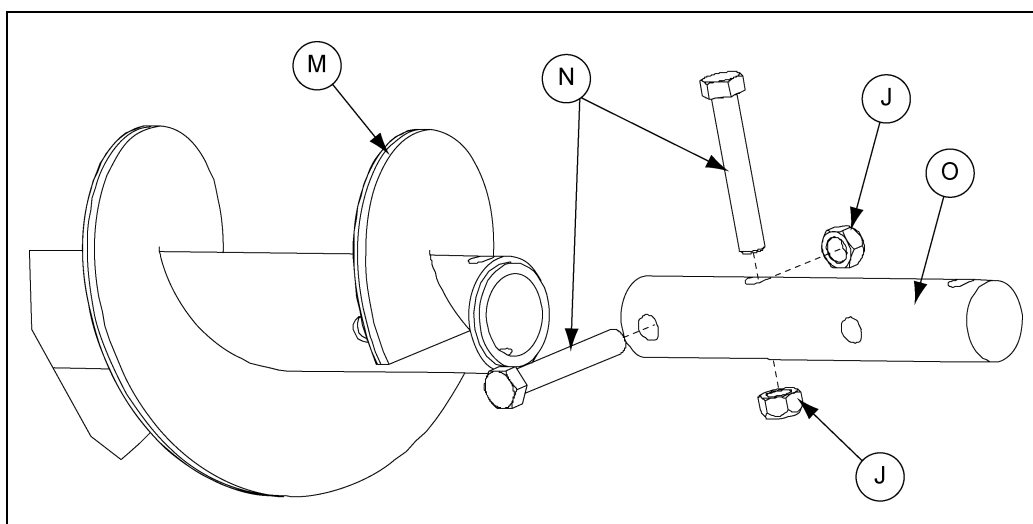

Figure 4AI
- Next, bolt the 2" O.D. x 11-1/2" connecting shaft (O) to the sweep flight (M) with two (2) 5/8" x 4" grade 8 bolts (N) and stover nuts (J). (See Figure 4AI.)